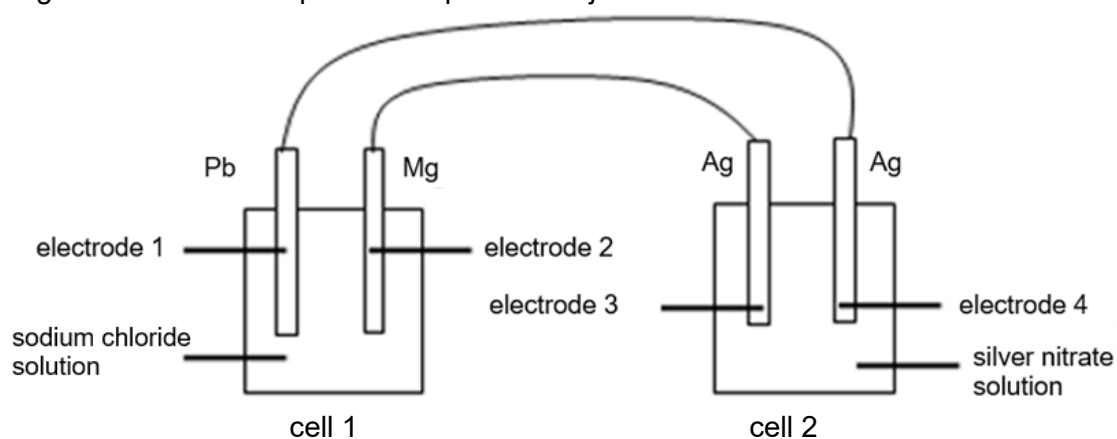

Fig. 3.2
- (b) Fig. 3.2 shows a set-up to electroplate an object with silver.
- (i) On Fig. 3.2, indicate the direction of electron flow. [1]